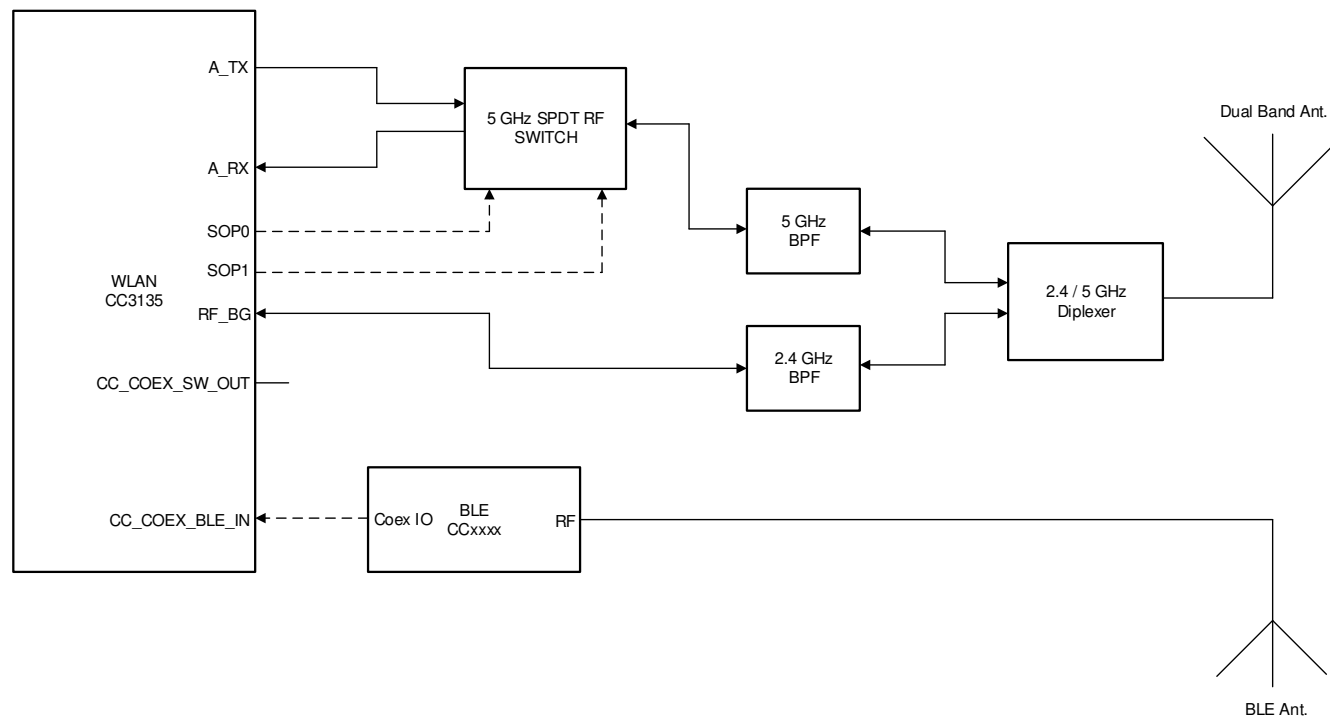

Figure 10-4. Dual Antenna Coexistence Solution with 5 GHz Wi-Fi®
- 5 GHz Wi-Fi band (see Figure 10-4)
Figure 10-4 shows the dual antenna implementation of a complete Bluetooth® low energy and WLAN coexistence network with the WLAN operating on either a 2.4- or a 5 GHz band. In this case, the 2.4 GHz and 5 GHz Wi-Fi share an antenna and the BLE has its own dedicated antenna. The SOP lines control the 5 GHz switch. Note in this implementation no Coex switch is required and only a single GPIO from the BLE device to the CC3135 device is required.